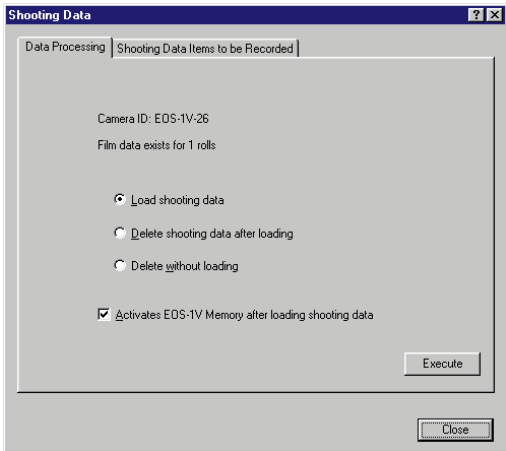

Fig. 1-7 Data Handling dialog box.
- (3) Shooting data
- The Data Handling dialog box (Fig. 1-7) provides options to download the EOS-1V's shooting data to the computer, delete the shooting data in the EOS-1V, or to start up EOS-1V Memory after the shooting data is downloaded. It also indicates the number of film rolls whose shooting data is stored in the EOS-1V.